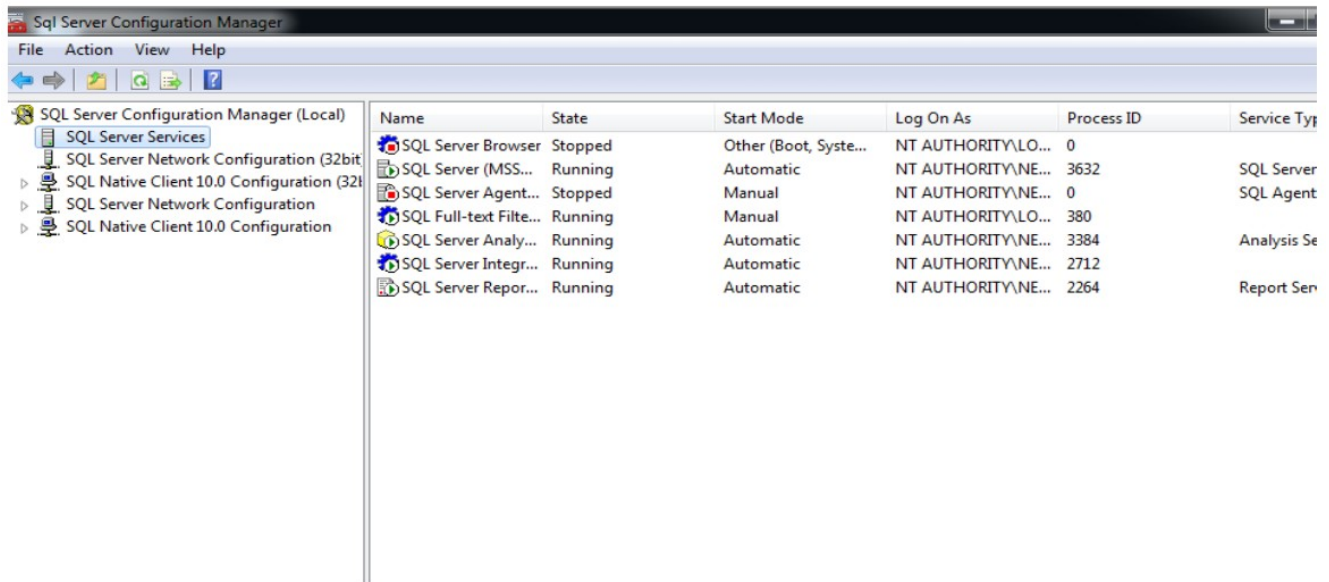

Fig.1.9 SQL Server Configuration Manager
**Step Nine:** Open SQL Server Configuration Manager to start configuring SSCM , choose “SQL Server Services” on the left, please make sure the state of “SQL Server” and “SQL Server Browser” is running on the right (see Fig.1.9).